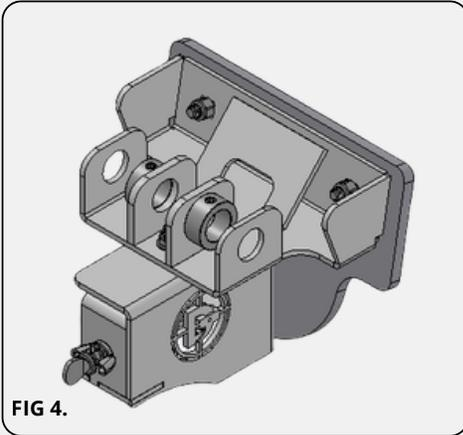

FIG 4.
4. Thread the wing nut onto the wing bolt, then thread the assembly into the hole on the back of the 2x4 hanger, as shown in FIG 4.